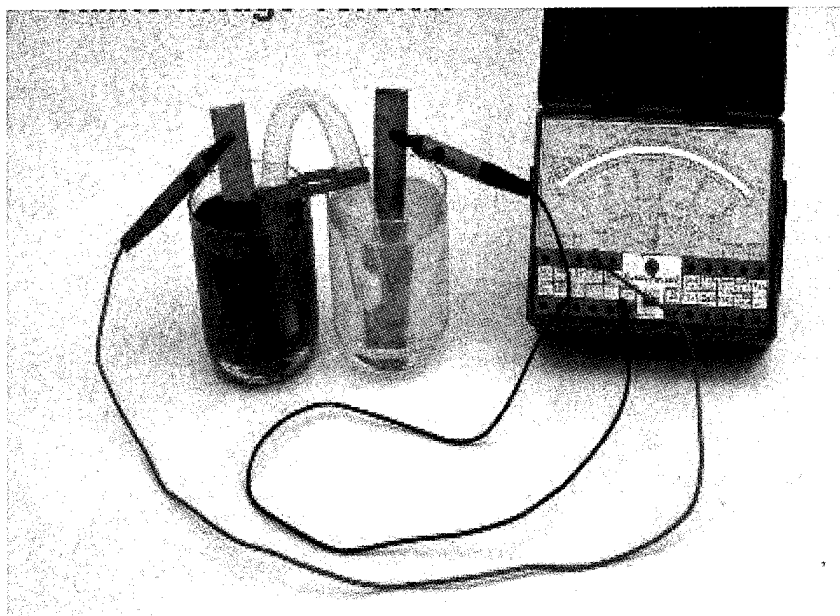

Figure 1. Zinc-Copper Voltaic Cell
1. Construct the set-up shown in Figure 1. Pour 50 mL of 1M cupric sulfate in a 150-mL beaker with the copper electrode.